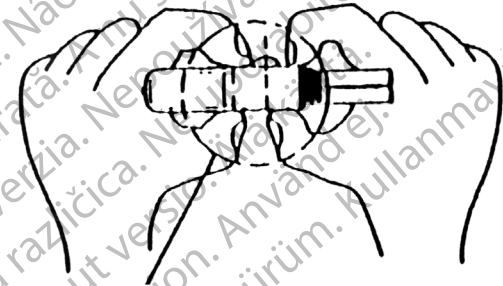

Figure 4-44. Fulcrum Method
1. Feel the control pump, locate the deactivation button, and place your index finger above it (at tubing side). (**Figure 4-44**)